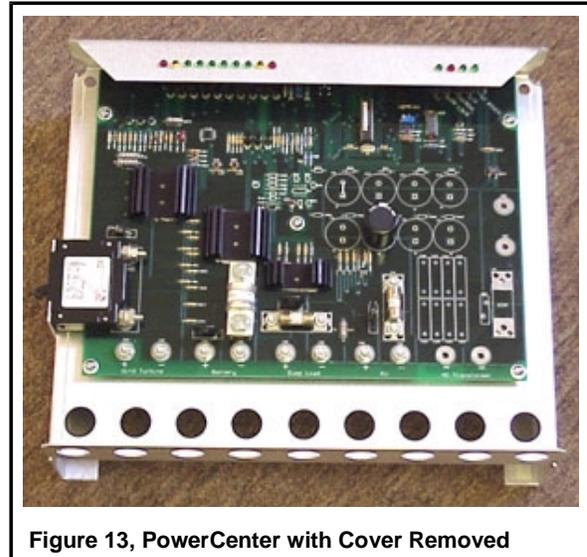

Figure 13, PowerCenter with Cover Removed
**Cable Entrances:** As shown in Figure 13, wiring can be connected to the PowerCenter from below or behind or in a combination of both. A total of eighteen 7/8" (~ M20) entrance holes are provided.